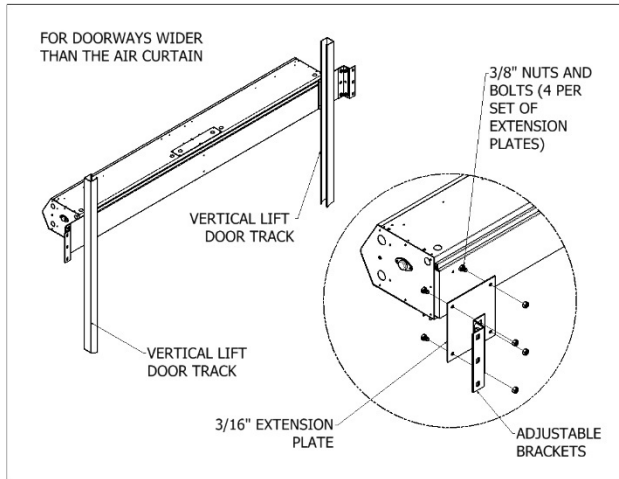

FIG. 5 (LPV SHOWN)
1. Side Extension Plates: For doorways wider than the air curtain, use combination of Side Extension Plates and Adjustable Mounting Brackets. (FIG. 5)